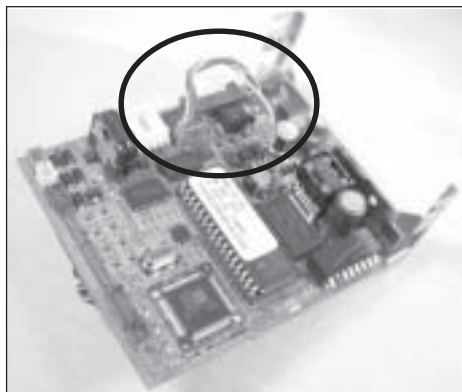

Figure 5
- j. Attach the optical interface harness (Part No. 067086) to the receptacle on the ICU board (Figure 5).